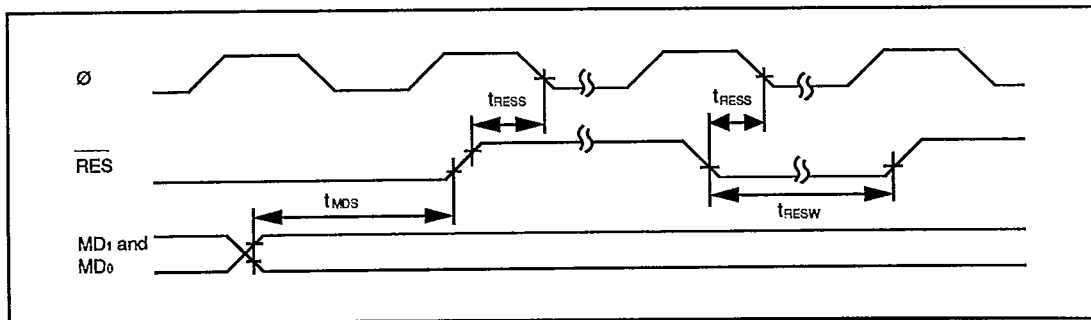

Figure 15-7. Reset Input Timing
- 15.3.2 Control Signal Timing Figures 15-7 to 15-10